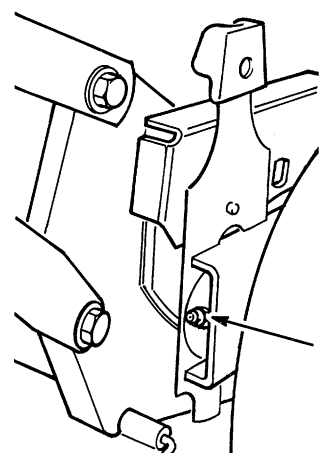

Figure 25
1. Move rear wheel height-of-cut levers to center setting. Wipe grease fittings with clean rag (Fig. 25). Install grease gun onto fitting and gently apply 2 or 3 pumps of #2 Multi-Purpose Lithium Base Grease. Excessive grease pressure may damage seals.